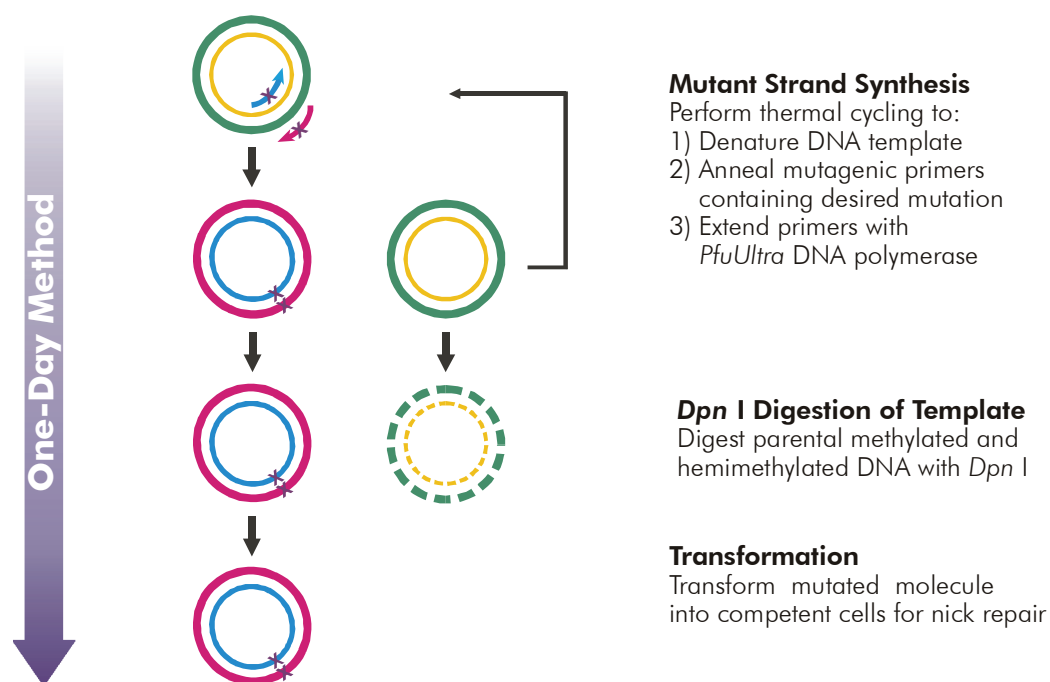

FIGURE 1 Overview of the QuikChange II site-directed mutagenesis method.
In vitro site-directed mutagenesis is an invaluable technique for characterizing the dynamic, complex relationships between protein structure and function, for studying gene expression elements, and for carrying out vector modification. Several approaches to this technique have been published, but these methods generally require single-stranded DNA (ssDNA) as the template¹⁻⁴ and are labor intensive or technically difficult. Our QuikChange II Site-Directed Mutagenesis Kit* allows site-specific mutation in virtually any double-stranded plasmid, thus eliminating the need for subcloning and for ssDNA rescue.⁵ In addition, the QuikChange II site-directed mutagenesis kit does not require specialized vectors, unique restriction sites, multiple transformations or in vitro methylation treatment steps. The rapid three-step procedure generates mutants with greater than 80% efficiency in a single reaction (see Figure 1). The protocol is simple and uses either miniprep plasmid DNA or cesium-chloride-purified DNA. For long (~8 kb) or difficult targets, we offer the QuikChange II XL Site Directed Mutagenesis Kits (Catalog #200521 and #200522).
The QuikChange II site-directed mutagenesis kit is used to make point mutations, replace amino acids, and delete or insert single or multiple adjacent amino acids. The QuikChange II site-directed mutagenesis method is performed using *PfuUltra* high-fidelity (HF) DNA polymerase** for mutagenic primer-directed replication of both plasmid strands with the highest fidelity.[¶] The basic procedure utilizes a supercoiled double-stranded DNA (dsDNA) vector with an insert of interest and two synthetic oligonucleotide primers, both containing the desired mutation (see Figure 1). The oligonucleotide primers, each complementary to opposite strands of the vector, are extended during temperature cycling by *PfuUltra* HF DNA polymerase, without primer displacement. Extension of the oligonucleotide primers generates a mutated plasmid containing staggered nicks. Following temperature cycling, the product is treated with *Dpn* I. The *Dpn* I endonuclease (target sequence: 5'-Gm⁶ATC-3') is specific for methylated and hemimethylated DNA and is used to digest the parental DNA template and to select for mutation-containing synthesized DNA.[¶] (DNA isolated from almost all *E. coli* strains is dam methylated and therefore susceptible to *Dpn* I digestion.) The nicked vector DNA containing the desired mutations is then transformed into XL1-Blue supercompetent cells.